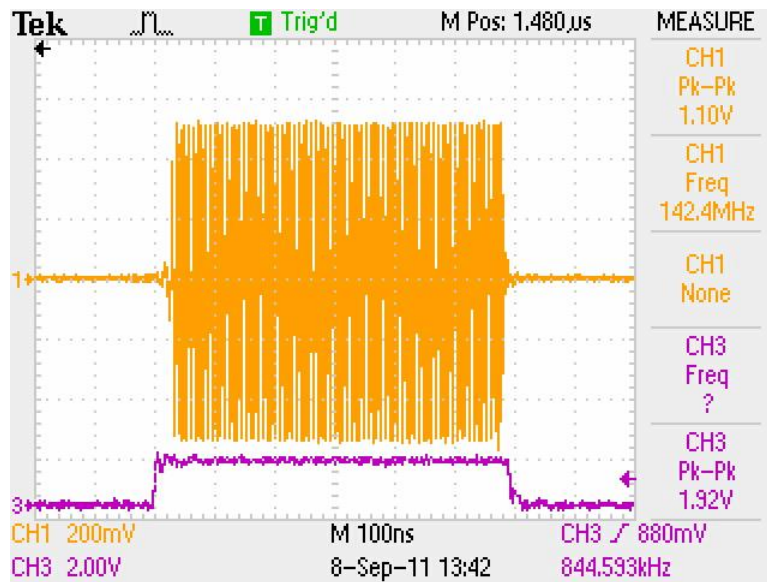

**Figure 7:** A 600 ns RF pulse at 10 MHz is shown in the base band with no digital up-conversion features turned on.
**Figure 12:** The digital up-conversion feature “Shifted Fs/4 with Pre-modulation” has been applied to the signal from Figure 7. The signal has been shifted up 312.5 MHz.